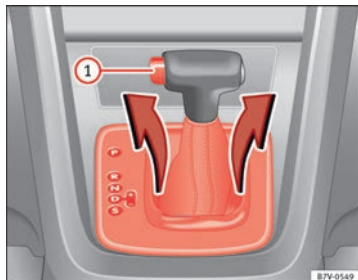

Fig. 198 Remove the lining from the area of the gear indication
- Pull the cover up around the dust guard on the gear selector lever ⇒ Fig. 198.
- Press the lock button ⇒ Fig. 198 ① on the gear selector lever knob and place the gear selector lever in the **N** position.